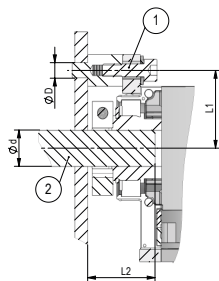
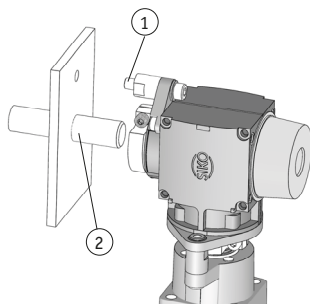
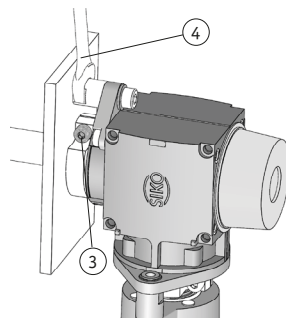

Fig. 3: Mounting dimensions
Fig. 4: Mounting
Fig. 5: Fastening torque for screws
- ▶ Ensure a low shaft and angle offset between shaft and accommodation bore by applying appropriate manufacturing methods (see Fig. 3 + Tab. 1).
If torque pin (see Fig. 3) is mounted improperly, this will lead to a destruction of the casing.
### Mounting angular gear incl. Actuator on wave (Fig. 3, Fig. 4, Fig. 5):